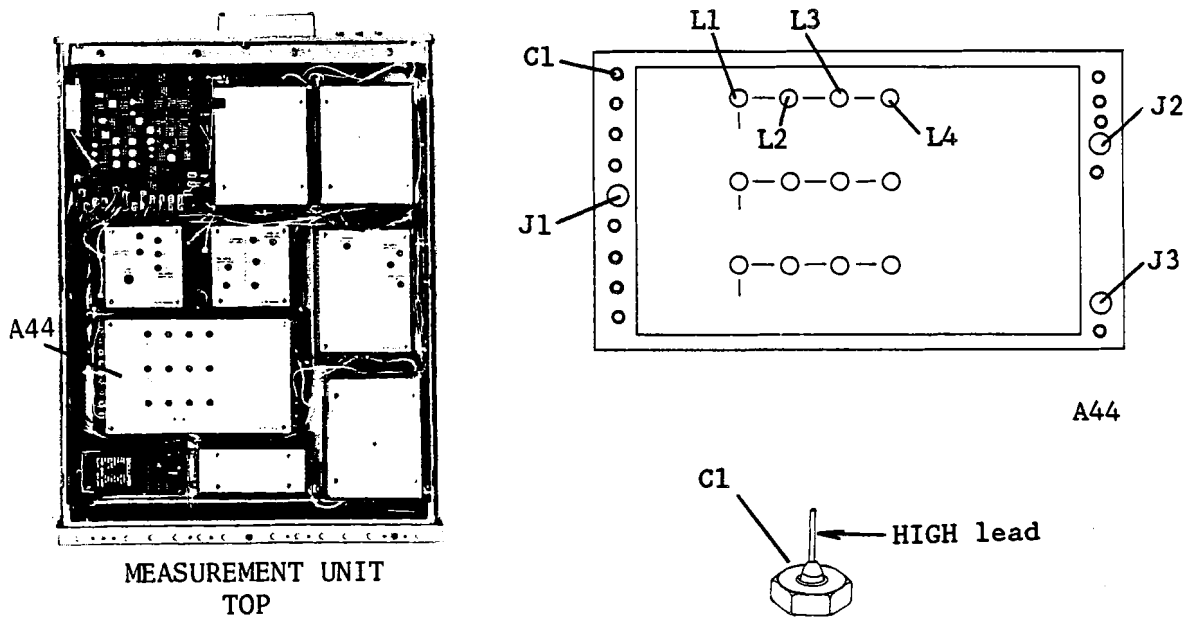

Figure A-4. 150 - 225 MHz Voltage Tune BPF Adjustment Locations
6. Connect the Voltmeter **LOW** lead input to ground, and **HIGH** lead to the center pin of HP 4195A A44C1 as shown in Figure A-4.